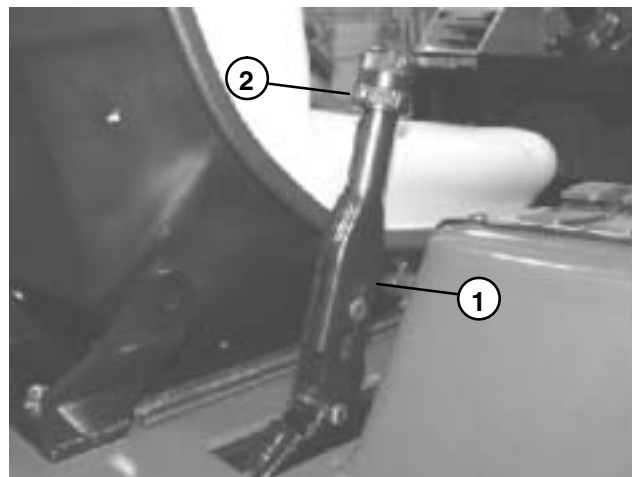

Figure 9
1. Loosen set screw on parking brake lever knob (Fig. 9). Turn knob on parking brake lever counterclockwise fully to loosen cable adjustment.